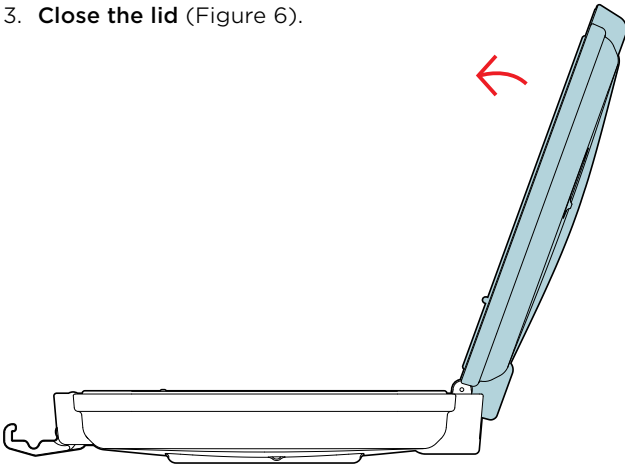

Figure 6: Close the lid
3. **Close the lid** (Figure 6).